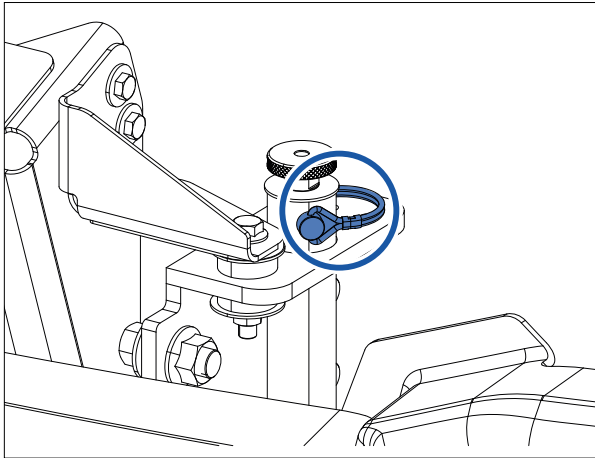

Figure 9 - Locking pins
5. Replace the lock pins on the locking dowels (**Figure 9**).